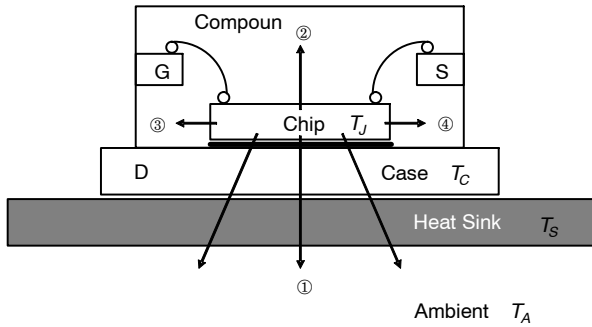
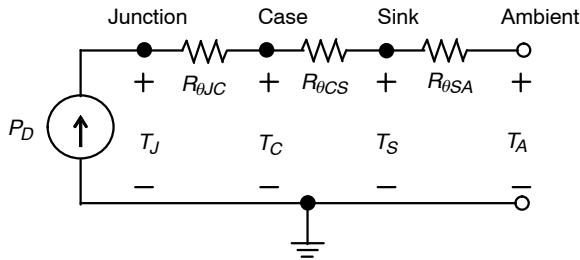

Figure 25. Thermal Discharge Path at Chip Junction
Figure 26. Circuit Based on Thermal Resistance
As shown in Figure 25, the heat produced at the chip junction normally discharges over 80% in the direction of ① and about 20% in the direction of ②③④. The path of the thermal discharge is the same as the movement of the current and is represented in Figure 26 after considering thermal resistance. This is true only for DC operation. Most MOSFETs are used in switching operations with a fixed duty factor. Thermal capacitance should be taken into consideration, along with thermal resistance. The thermal resistance from the chip junction to the ambient is  $R_{\theta JA}$  (junction-to-ambient thermal resistance) and the equivalent circuit can be expressed as Equation 12.